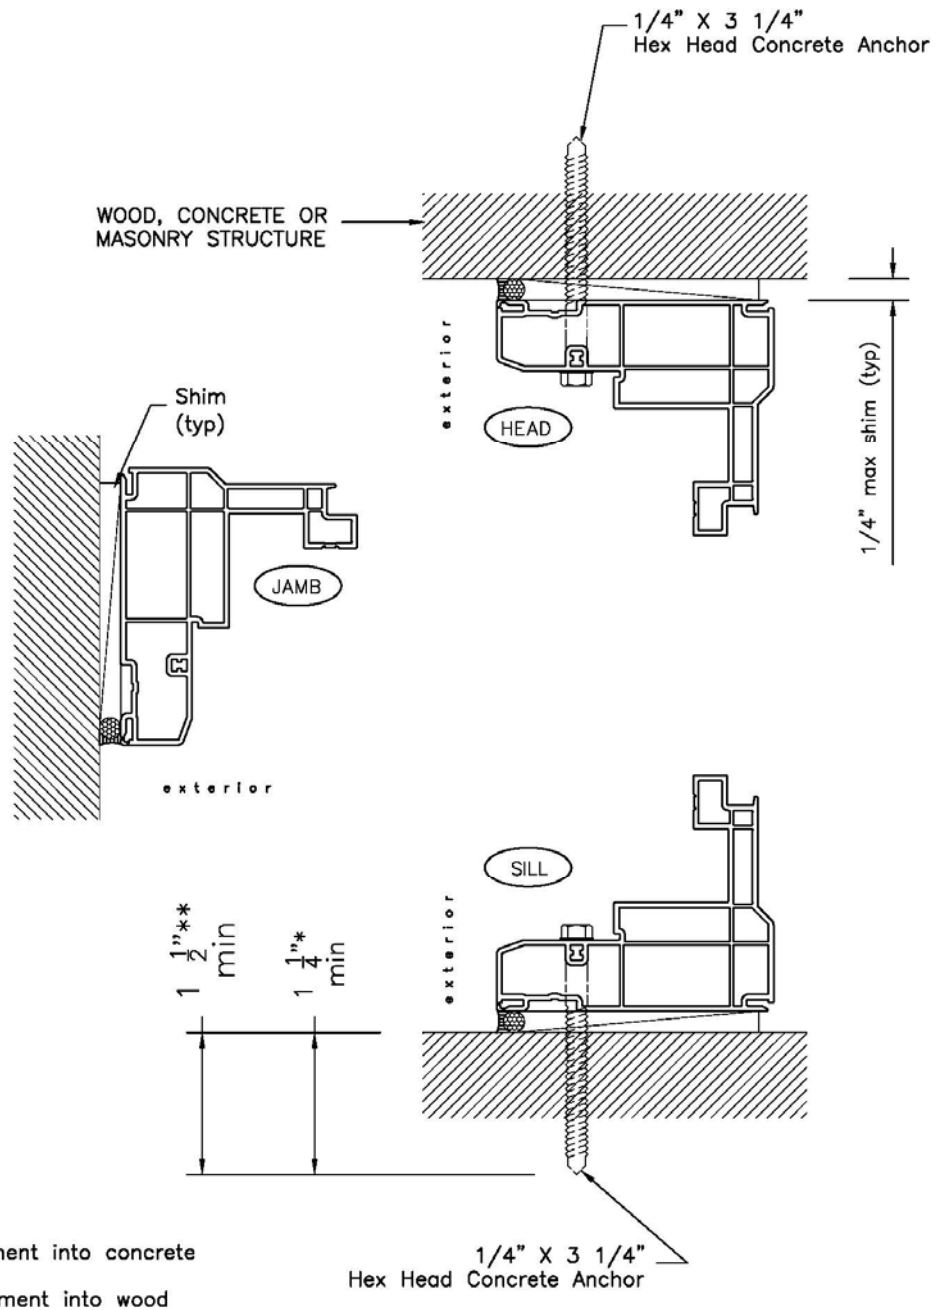

**Figure 4: Installation type "A" using 1 x bucks**
2. If wood bucks are being used, make sure they are of the correct size and type for the installation method being used (see figures 4 and 5 - Installations Types A and B). Verify that wood bucks are plumb, level and square. Note that Installation Type C (Equal/Flush Leg) does not require a wood buck.